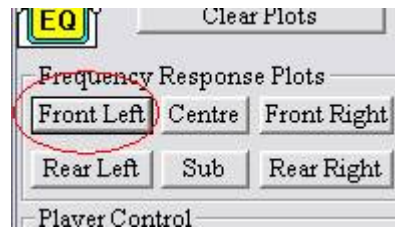

Figure 136. Click Front Left generate plots for the left front speaker.
- Next click the button to plot the Front Left Speaker, Figure 136.